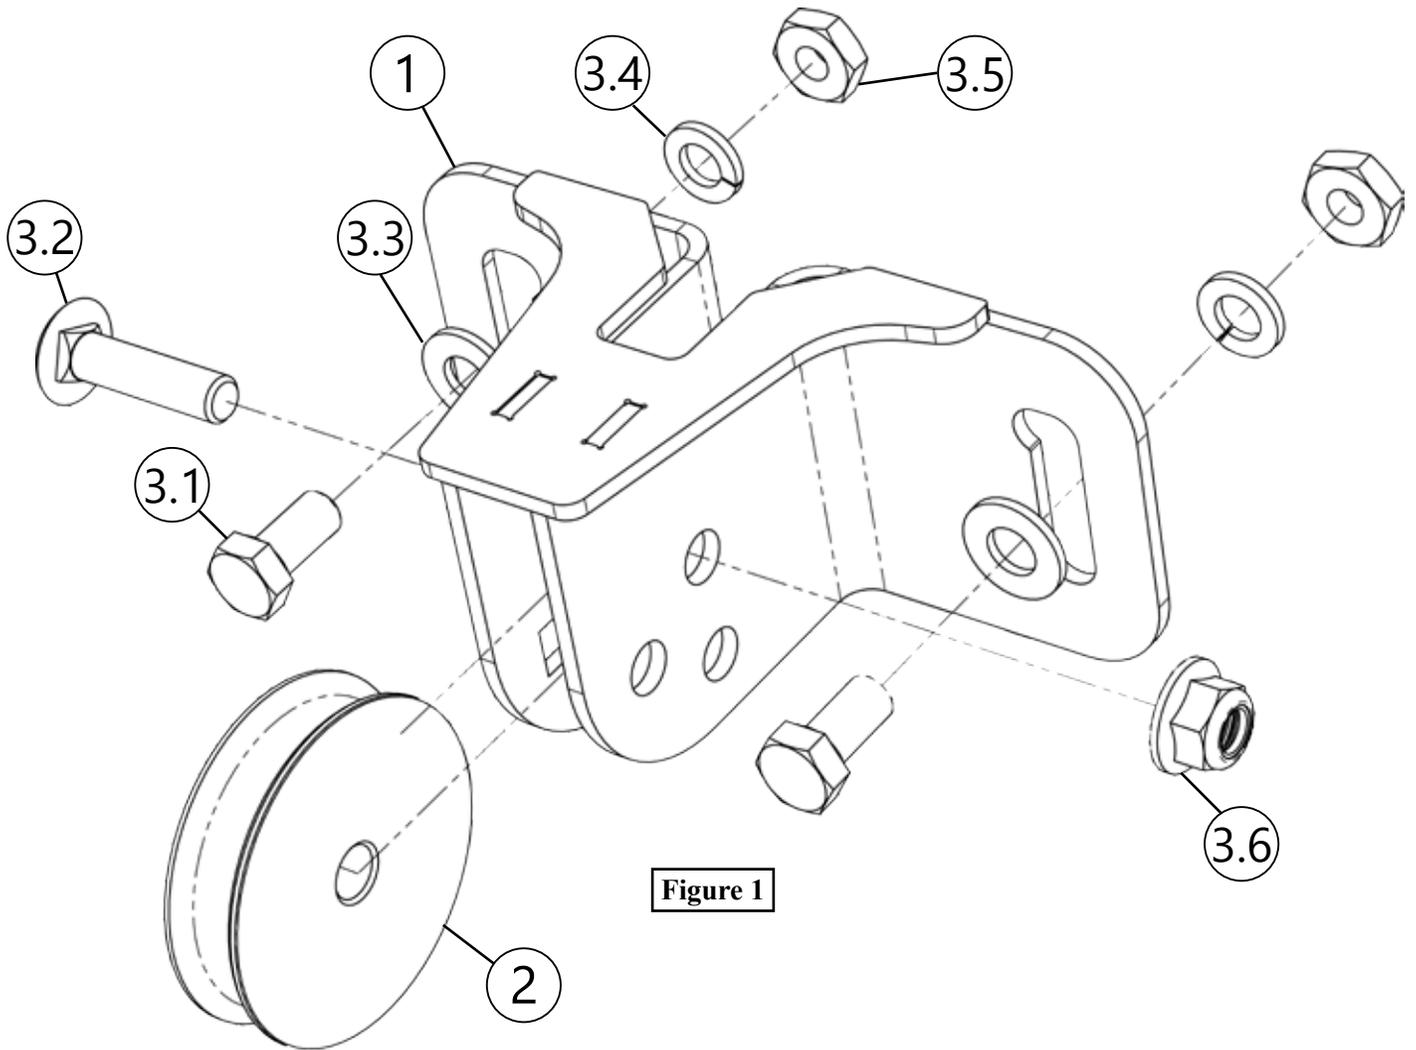

Figure 1
2. Place rope over pulley and install to Pulley Bracket using the 1 1/2" Carriage Bolt (3.2) and Flange Nut (3.6) as shown in Figure 1.
3. Loosely install 3/8" bolt (3.1), washer (3.3), lock washer (3.4), and nut (3.5) through fairlead bracket and pulley bracket as shown in figures 1 and 3. Slots have been cut into the brackets to adjust for clearance of plastic on the machine.